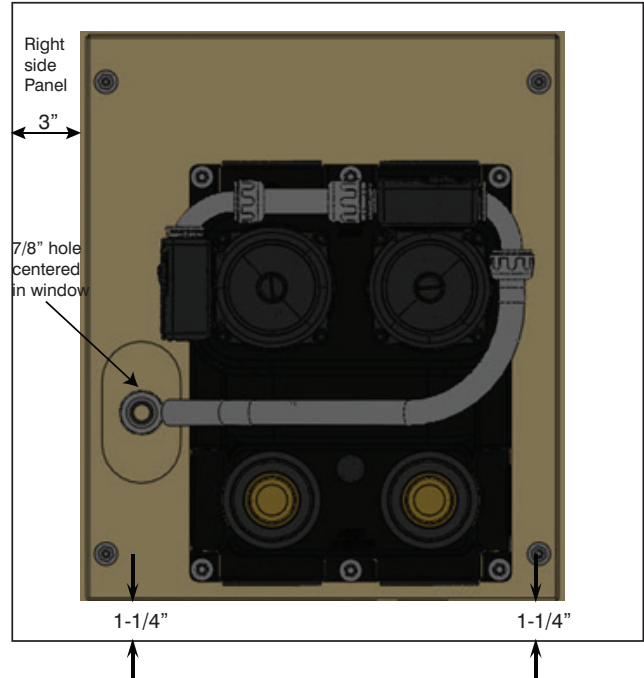

Fig. 4 — Flow Center Panel
- Place flow center panel on top of GHP right side panel 3 inches from the left and 1-1/4 inches from the bottom. Measure in two spots per side to ensure the panel is properly aligned and level. (Fig. 4)
- Attach flow center panel to the right side panel of GHP using (4) #12 x 2" long self-drilling screws supplied in kit.
- Drill or punch a 7/8" conduit hole for the 1/2" conduit fitting in the center of the flow center panel window. (Fig. 4)